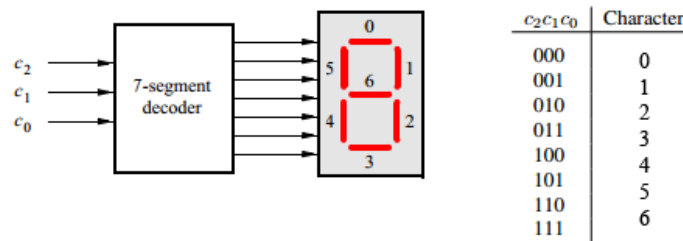

Figure 13: 7 segment display and decoder
The 7-segment display is comprised of 7 LEDs that are arranged in such a way that allows for the creation of the numbers 0-9 and a select few characters with some clever use. Figure 13 shows the block diagram and output table. Your task is to create a 3 input, 7 output decoder that will display a number from 0-6. To accomplish this task, you should program the switches SW(0) - SW(6) to make the first 7 displays show the numbers 0-6 when its switch is turned on.